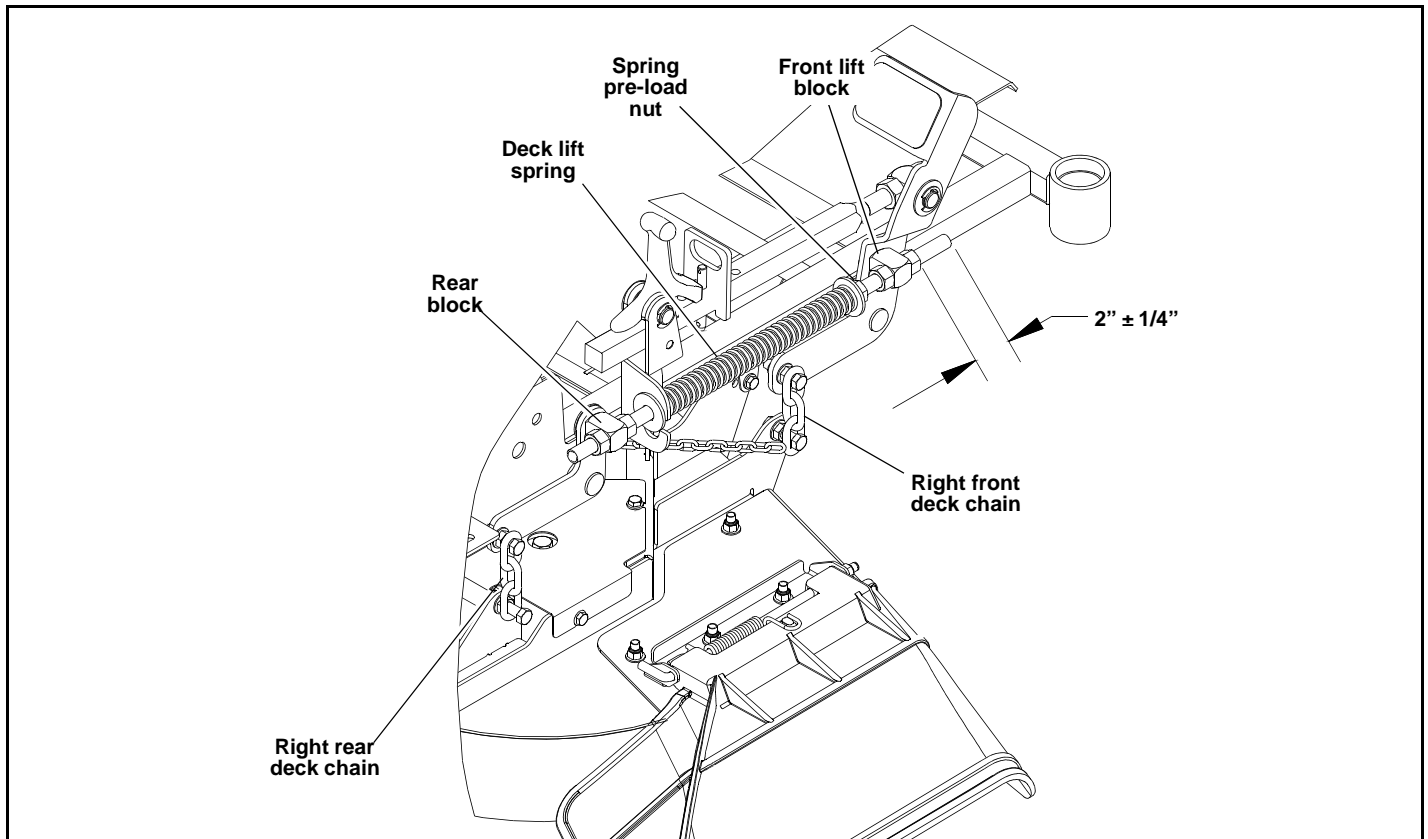

Figure 6-9
12. Set the amount of threads protruding on the deck lift spring rod from the front lift block at approximately  $2" \pm \frac{1}{4}"$ . Figure 6-9
14. Turn the spring pre-load nut until it contacts the rear nut of the front lift block, reducing the amount of pre-load on the spring. Figure 6-9
19. Screw the front nut finger-tight against the rear block on the deck lift spring. Tighten these two nuts. Figure 6-9
20. Check the right front deck chain to be sure it is taut, Figure 6-9. If there is slack in the chain, adjust the rear nut forward against the square block on the deck lift indicator to gain tension. Figure 6-6